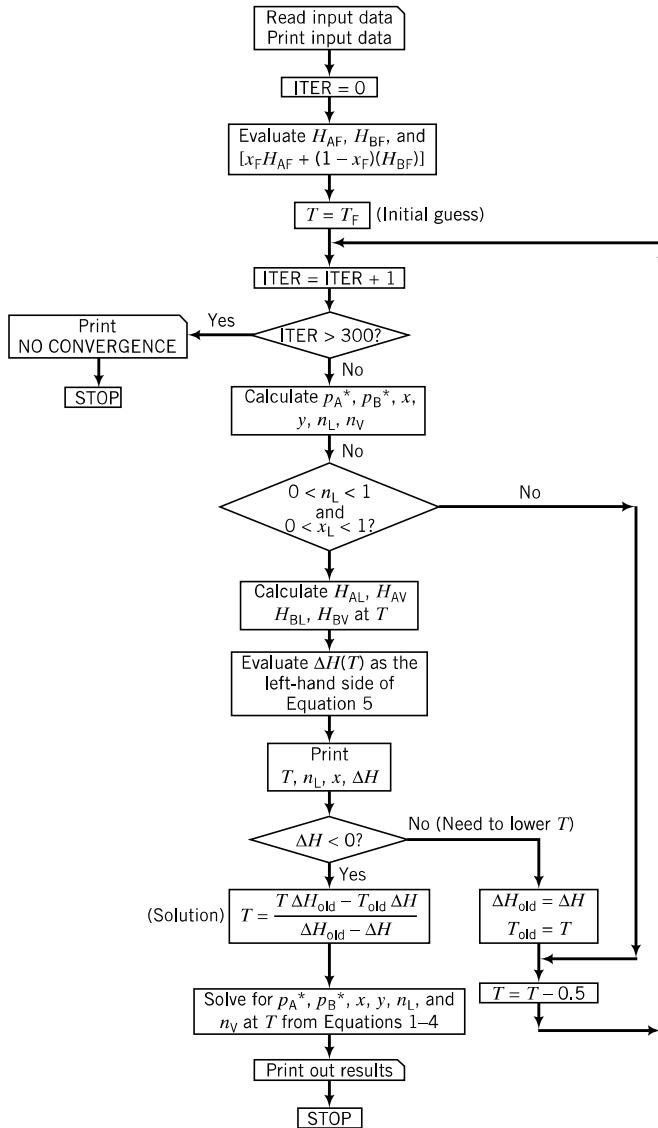

Figure P8.1 Flowchart for program of Problem 8.66.
A flowchart for a program to implement this procedure is shown in Figure P8.1. Write the program and test it by estimating the flash tank temperature and product stream flow rates (mol/s) and compositions (mole fractions) for the flash vaporization of one mol/s of an equimolar mixture of *n*-pentane (A) and *n*-hexane (B), if the feed temperature is 110°C and the tank pressure is 1.0 atm.